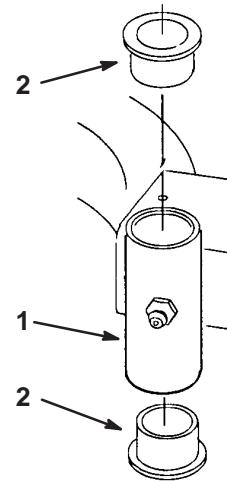

Figure 56
- Insert a pin punch into the mounting tube and carefully drive out the bushings (Fig. 56). Clean the inside of the mounting tube.